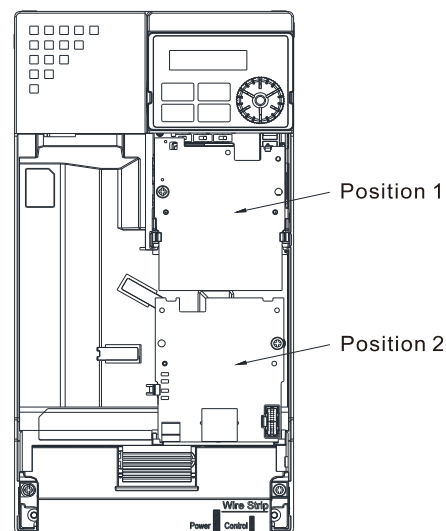

Figure 8-2
4. Refer to the following pages for the cable connection. (Fig.8-2 and Table 8-3)